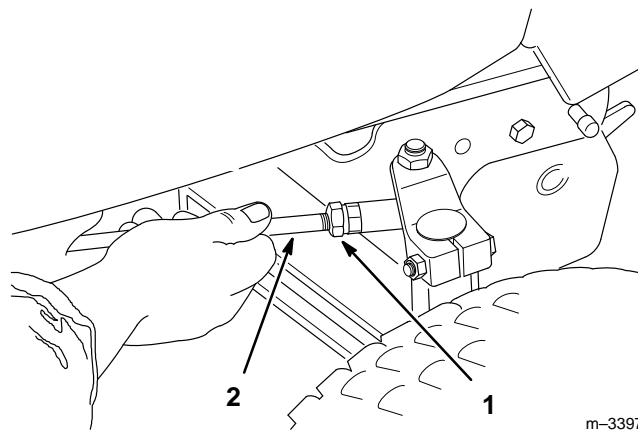

Figure 43
1. Loosen the jam nuts at the ends of the steering rods (Fig. 43).